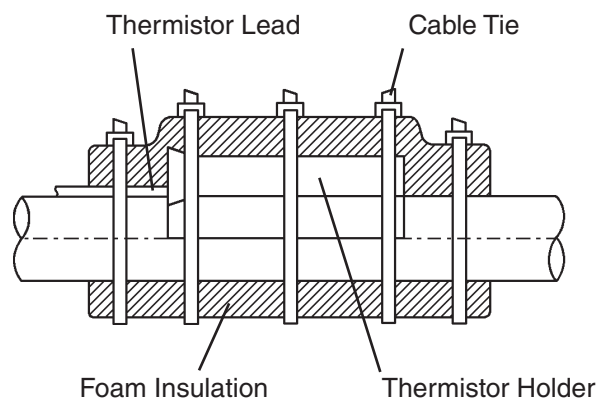

Fig. 5
- 4) Remove the thermistor from the refrigerant tubing. See Fig. 5.